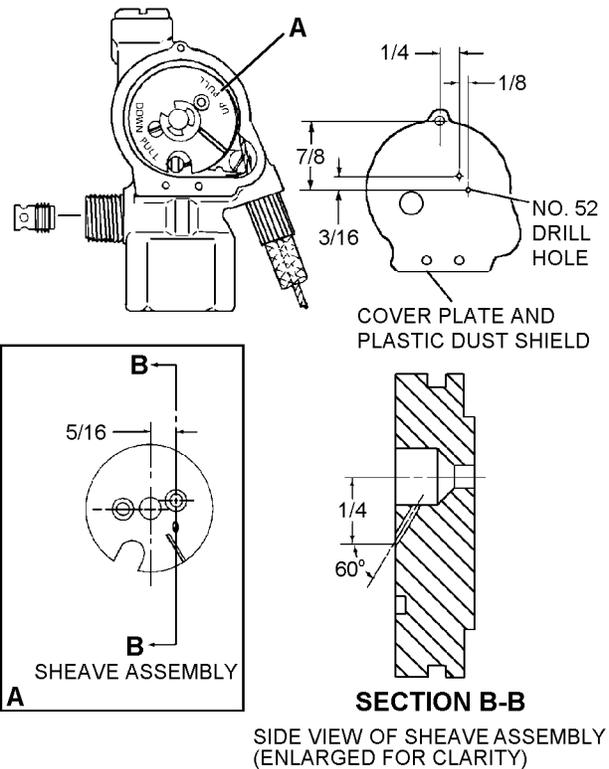

Figure 9-14. Drilling IV0303 Inflation Valve
3. Using a no. 52 drill, drill two holes in cover plate and plastic dust shield. See figure 9-14.
8. Using a no. 52 drill, drill a hole at a 60° angle in valve sheave. See figure 9-14.